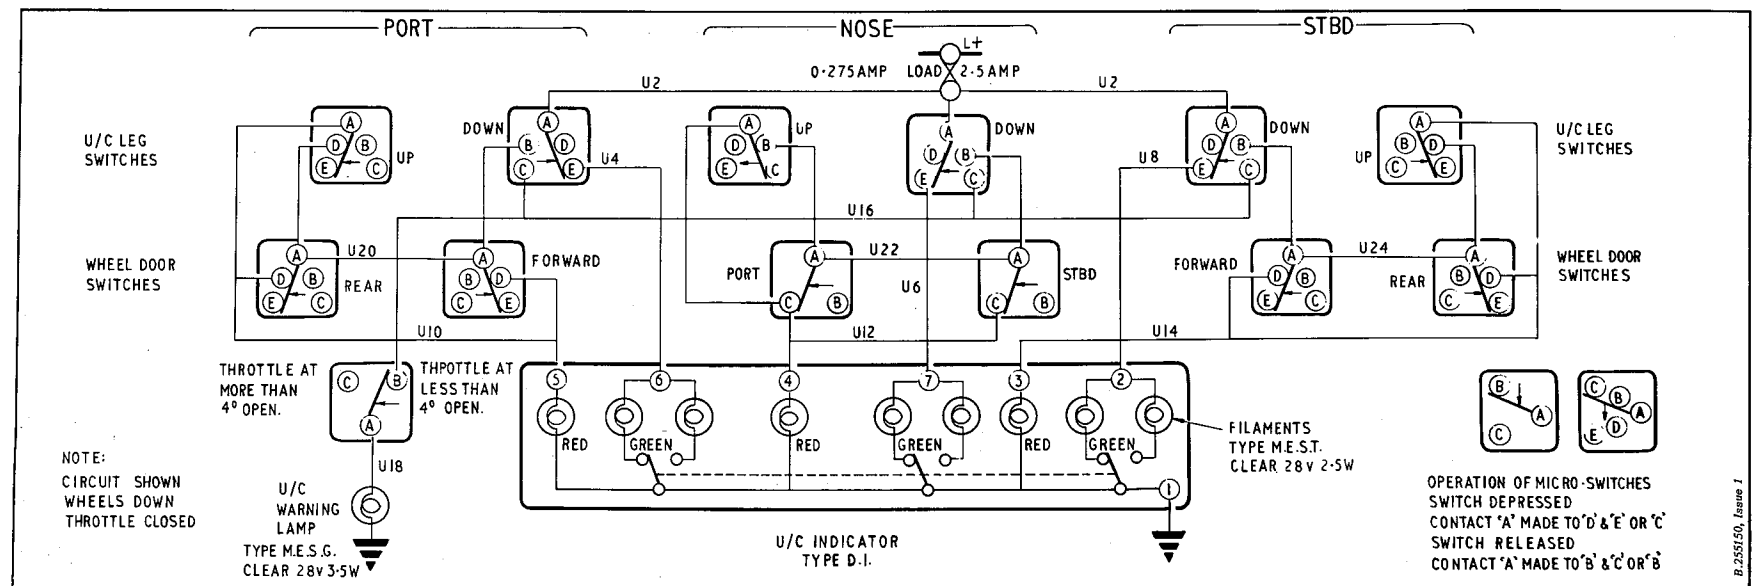

Fig.1 Alighting gear indicator and warning lamp (theoretical)
3. The theoretical circuit diagram (*fig.1 of this group*) shows conditions when the aircraft is standing on its alighting gear with the throttle closed. The green indicator lamps are all illuminated as both the main undercarriage legs and the nose wheel leg 'down' switches are making contacts A-E to supply these lamps. The throttle microswitch is making contacts A-B, but the alighting gear warning lamp is not illuminated as the supply is broken at contacts C of the 'down' microswitches. The wheel door and main wheel leg 'up' microswitches are all making contacts A-D while the nose wheel leg 'up' micro-